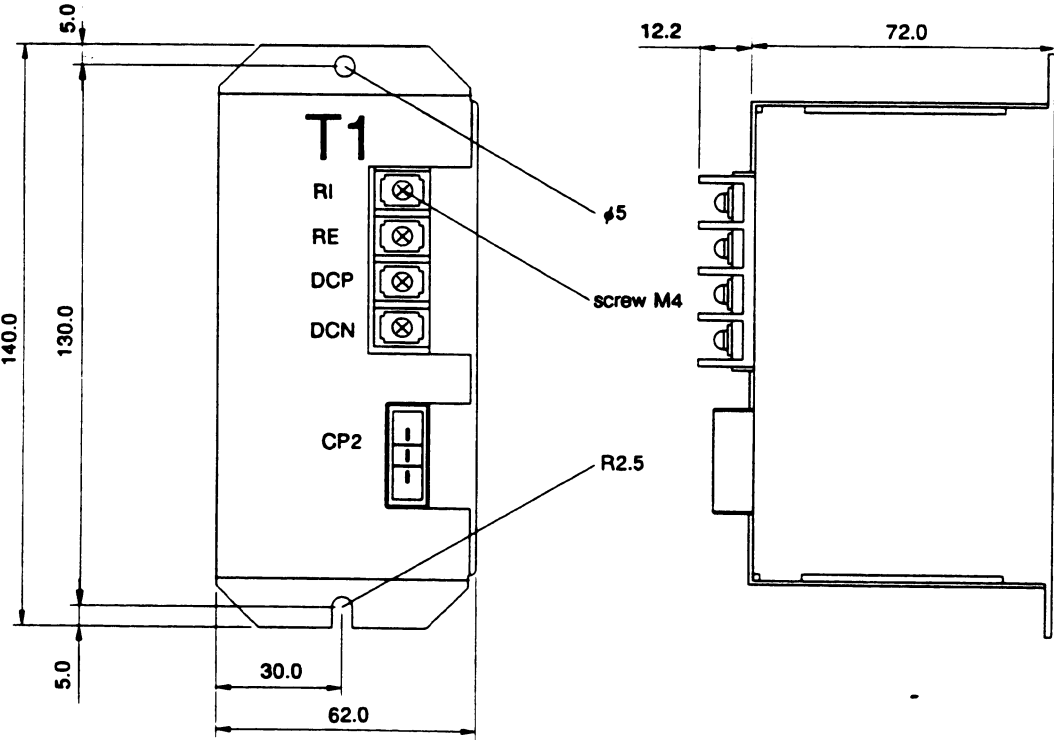

Fig. 6 External View of Regenerative Discharge Unit (A06B-6070-H500)
- Fig. 6 ..... External view of regenerative discharge unit